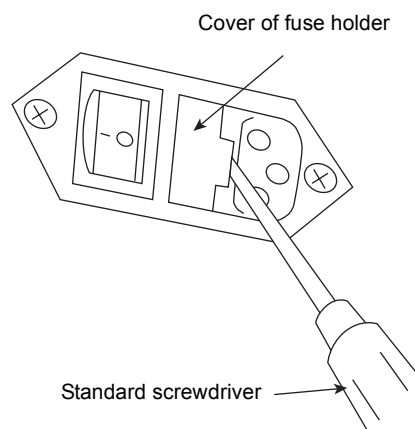

Fig. 11.7 Opening the fuse holder cover
- (1) Turn OFF the power.
- (2) Remove the power cord from the power connector.
- (3) Use a standard screwdriver to open the cover on the fuse holder, as shown in Fig. 11.7.